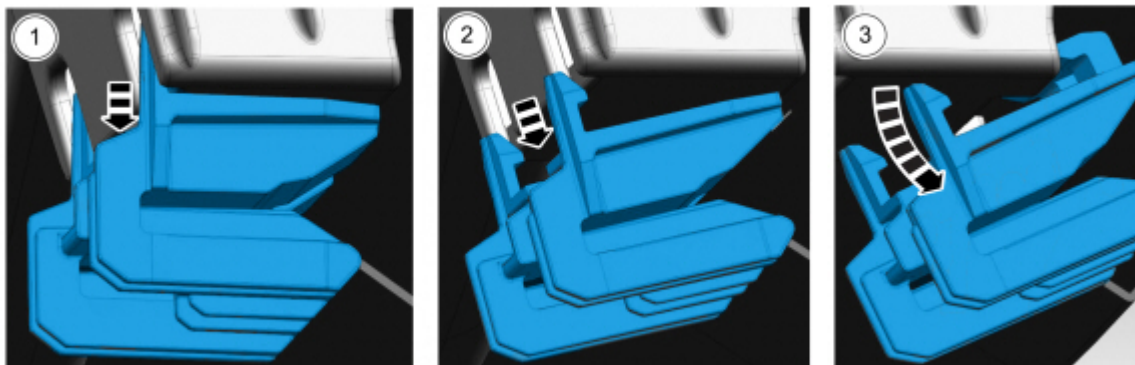

Figure 3
3. Remove the clips from the instrument panel (2 snaps) at the 3 locations. (Figure 3)